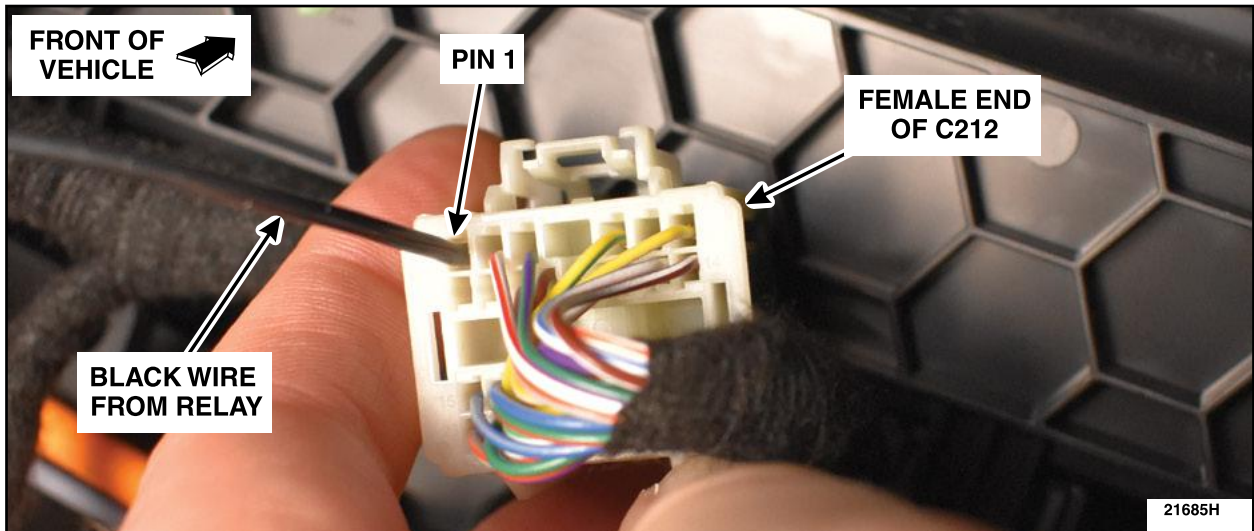

FIGURE 7
11. Install the Black (BK) wire from the relay into Pin 1 of the female end of C212. See Figure 7.